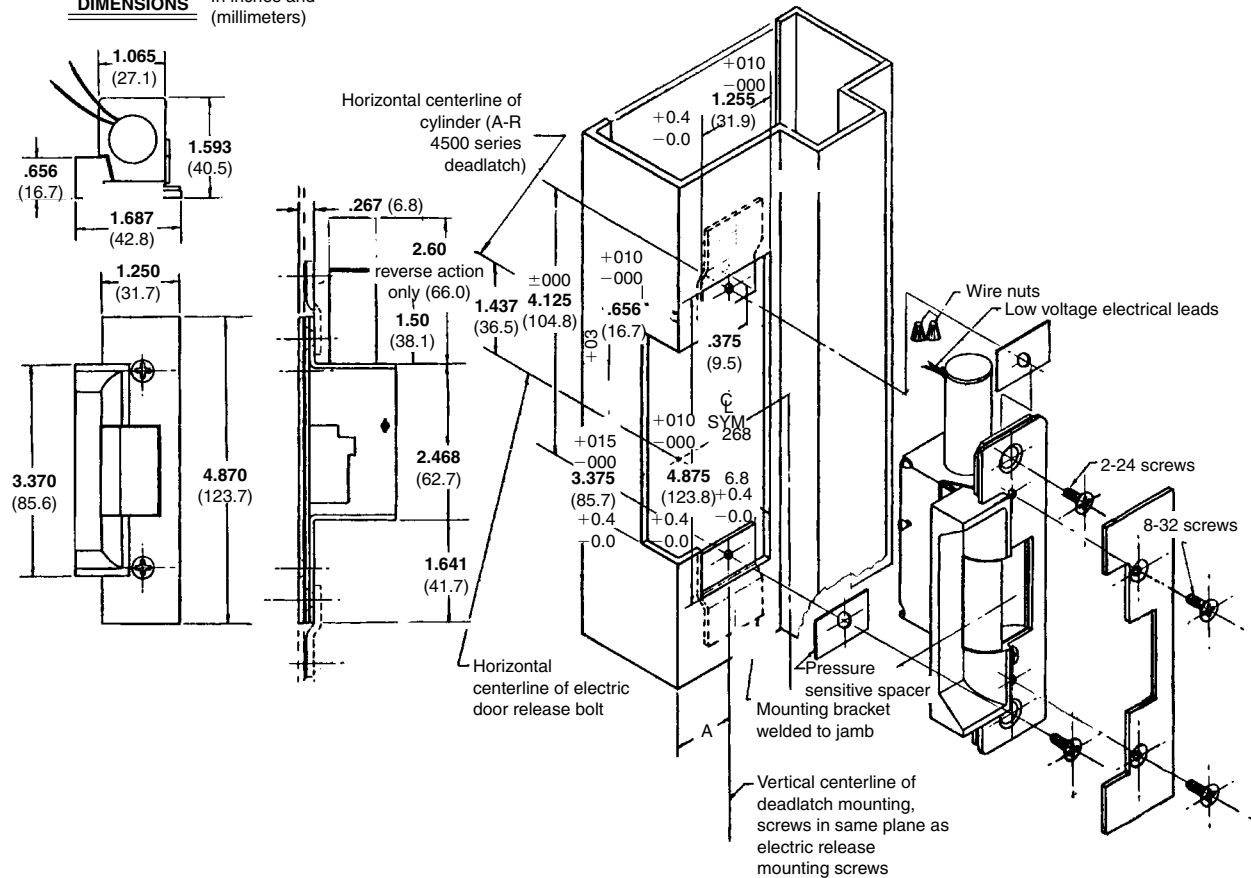

Figure 19.4 Jamb preparation and dimension data for a metal frame that has a molded strip down the frame center. (*Adams Rite Mfg. Co.*)
1. Prepare the metal jamb to the dimensions shown in Fig. 19.4.